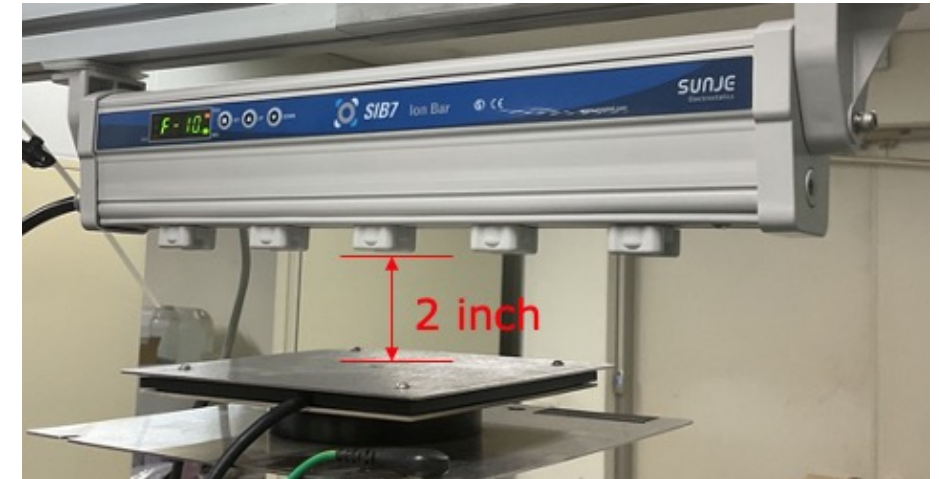

Figure 11 - Pulsed AC Ionizer at 2-inch distance
- Pulsed AC Bar Ionizer has set at 12-inch and 2-inch distances from CPM plate and make measurements in Figure 11.